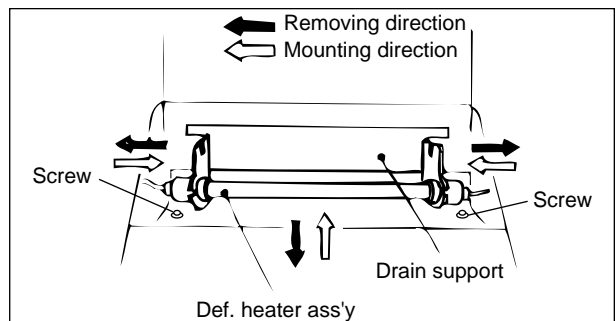

Fig. A-26
3. Open Def. heater fixed part of Drain support (Fig. A-26) to the right and left, then remove Def. heater ass'y.